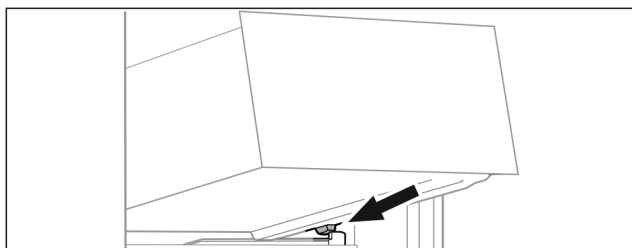

Fig. 58
- Place drawer at an angle behind the stoppers on the moulded rib. (see Fig. 58)